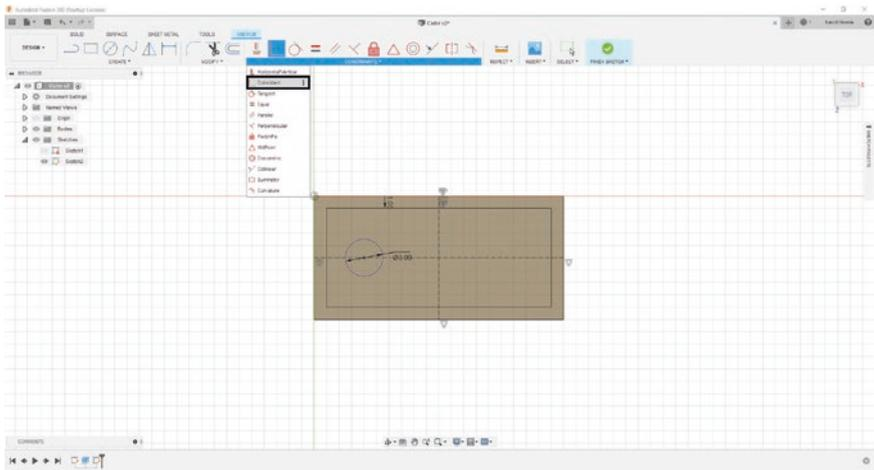

Figure 3-68. Constrain the circle to the horizontal center line
21. Now while pressing the “Ctrl” key, select the center of the circle and the horizontal construction line; then select the coincident constraint from the “CONSTRAINTS” menu. See Figure 3-68.